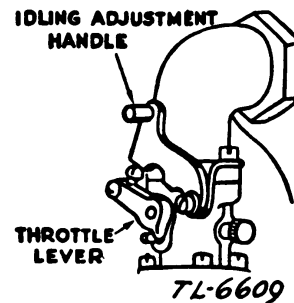

FIGURE 9. Idling device.
**b. Resetting.** If the governor lever has been loosened or removed from the governor shaft, it is easily reset. With the carburetor attached to the motor and hooked up to the governor lever by means of the throttle link, loosen the setscrew holding the governor lever on the shaft. Push the governor lever toward the left as far as it will go. Hold it in this position and turn the governor shaft to the right with pliers until it strikes a stop in the crankcase. Tighten the screw that holds the governor lever to the shaft until the lever is snug. Push the governor lever to the right as far as it will go, and tighten the screw securely. To idle the engine, lower the idling adjustment lever (fig. 9). Raise the lever to bring the engine back to normal running speed.